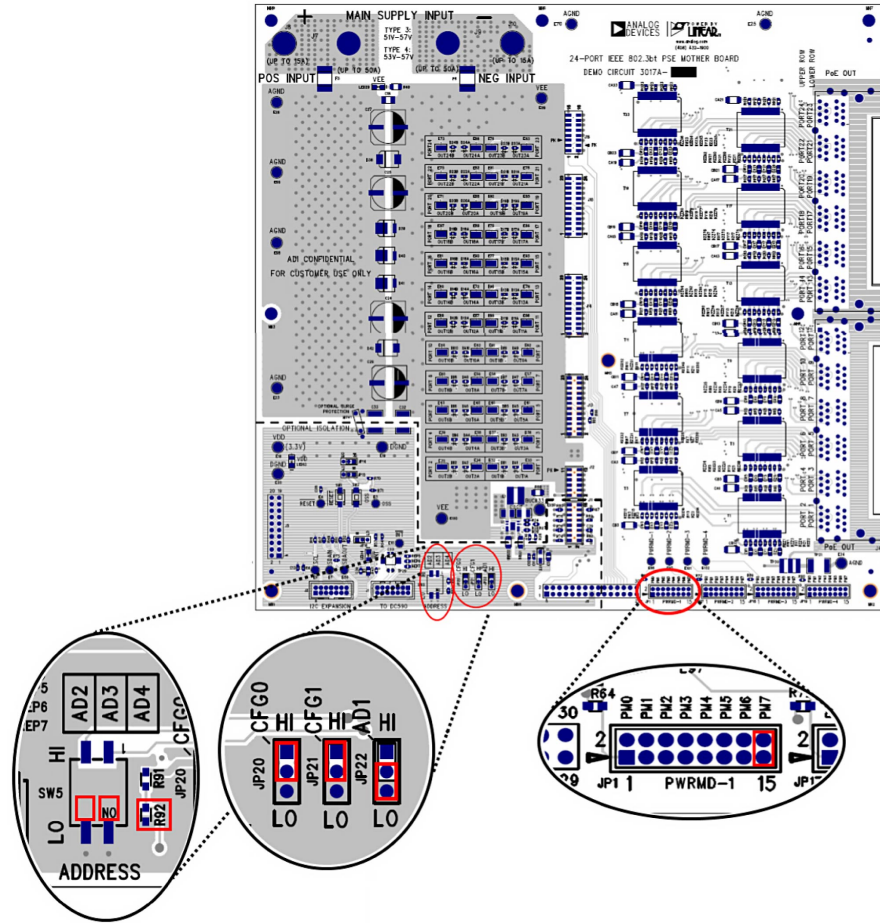
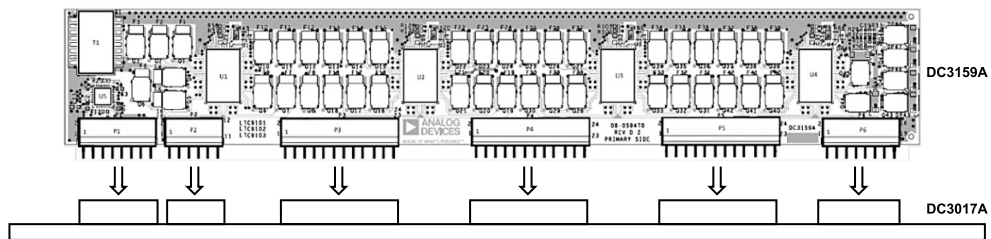
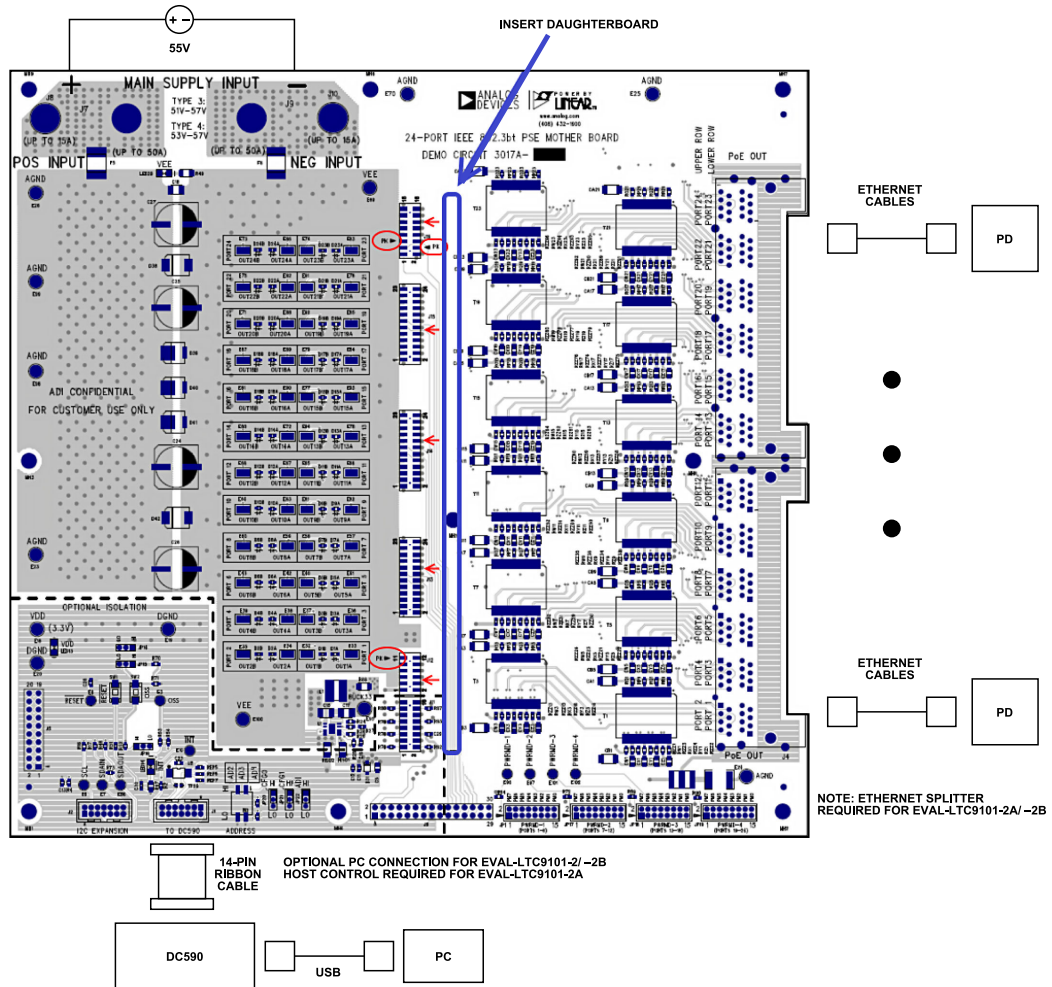

Figure 2. Default Settings for DC3017A-B Motherboard, Jumpers PWRMD0, AD1, CFG0, and CFG1; Switches: AD2 and AD3; Resistor options for AD4
Figure 3. Inserting the DC3159A Daughter Card into J1 through J6 of the DC3017A-B Motherboard
Figure 4. EVAL-LTC9101-2 Kit Connections
Follow the procedure below and see Figure 2 through Figure 4, and Table 2 through Table 4 for proper equipment setup and default configuration.
- Align pin 1 of the 16-pin male connector P1 on the DC3159A daughter card with pin 1 of the 16-pin female connector J11 on the DC3017A-B motherboard as shown in Figure 3. The six male connectors and six female sockets should match. Keyed pins in J16 and J12 assist with the alignment shown in Figure 4. Carefully push the daughter card straight down until the male and female connectors are flush with each other.
- Connect a supply to the DC3017A-B motherboard with the positive rail to POS INPUT (+) and negative rail to NEG INPUT (-) as shown in Figure 4. Use a power supply capable of sourcing the maximum power for all ports to be tested. Ramp the supply up to within the recommended voltage range specified in Table 4.
- Connect the DC590B or other I²C host controller at 14-pin connector (J1) as shown in Figure 4. Host control is required for EVAL-LTC9101-2A.
- Connect IEEE 802.3af, 802.3at, or 802.3bt PDs to the motherboard's RJ45 connectors J3 and J4, as shown in Figure 4.
When inserting or removing the daughter card into the DC3017A-B motherboard, verify all supplies and LEDs are off. Push the card straight down for insertion or pull straight up for removal to avoid bending the connector pins. Follow the instructions in the Quick Start Procedure for alignment and see Figure 3.